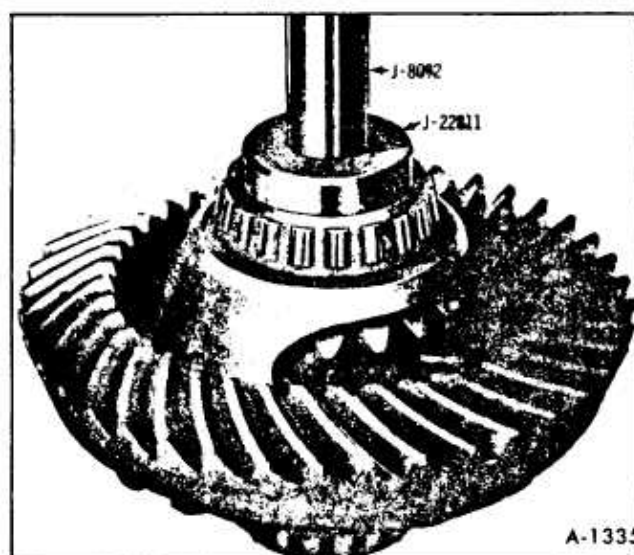

Figure 47—Installing Left Side Bearing
1. Install the side bearings as shown in Figures 47 and 48. Drive evenly until seated.